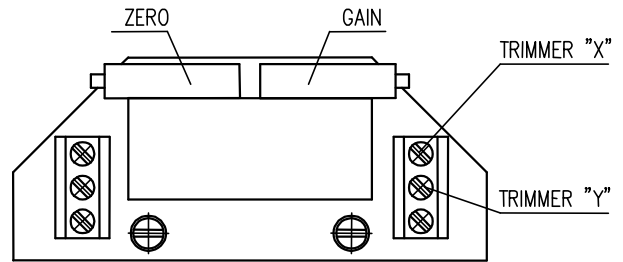

Fig. 6
EPV – 3-wire version (Fig. 6, 6a)
- Adjust the resistive transmitter according to the previous chapter. The resistance is to be metered on the terminals **X-Y**, resp. **0%-100%** (Fig. 6, 6a). The used transmitter resistance is **2000 W** or **100 W**.